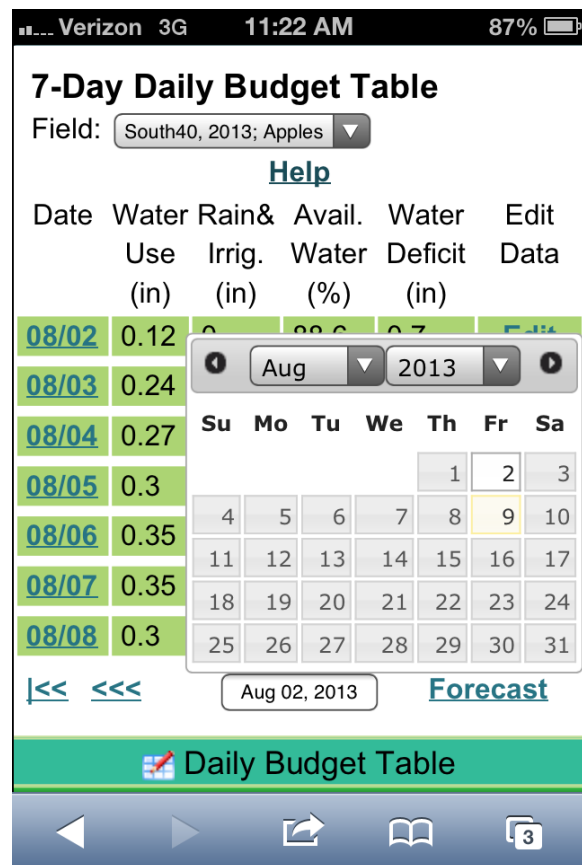

Figure 6. Choose first date of week to view.
**Navigation:** You can navigate to other dates in the growing season using the buttons at the bottom of the table. The date button in the middle is used to go to the week starting with the chosen date (Figure 6). Note that you cannot navigate outside of the growing season as defined by the crop's planting date and end-of-season or harvest date as defined in Field Settings. The |<< and >>| buttons takes you to the beginning of the growing season and to today (or to the growing season) respectively. The <<< and >>> buttons navigation you forward or backwards respectively in time by one week.